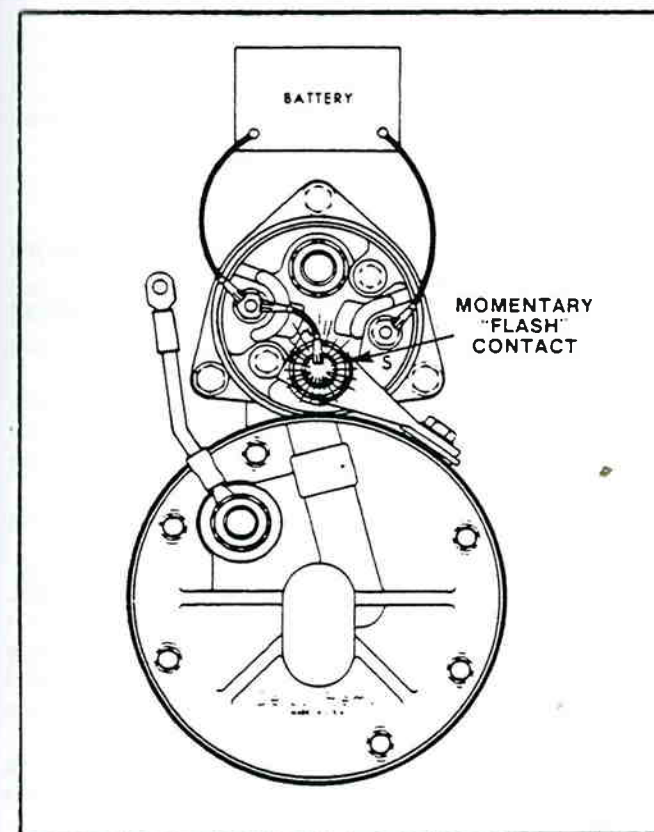

Figure 7-45. Connections for Checking Pinion Clearance (42-MT).
1. Make connections as shown in figure 7-45.
2. Momentarily flash a jumper lead from ground return terminal to terminal MTR (figure 7-45) The drive will now shift into cranking position and remain so until the battery is disconnected.